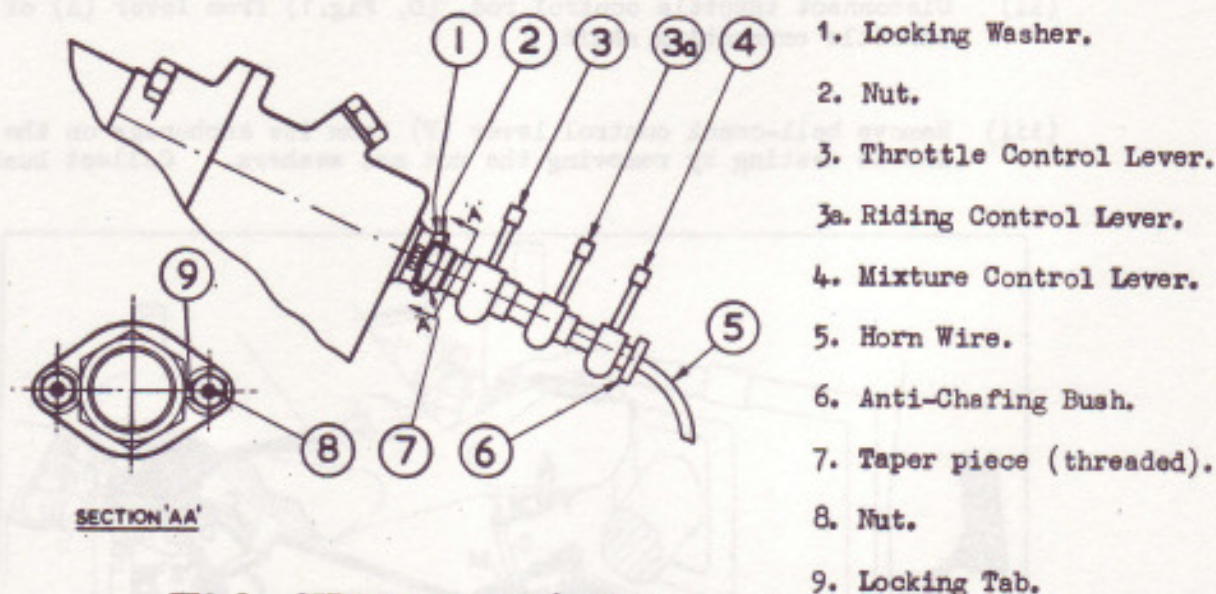

FIG. 2. STEERING COLUMN (BOX) - Lower End.
- (iv) Remove pin (G) from the jaw of the mixture control rod.
- (vii) With the master switch on the instrument panel switched off, remove clip fastening the horn wire (5, Fig.2), to the off-side valance plate. Disconnect wire from its terminal on the horn relay, and remove same from the conduit tube. Remove anti-chafing bush (6) from the mixture control tube at the bottom of the steering column. Remove the pinch bolts from levers (3, 3a and 4, Fig.2), then slide them downwards off their respective tubes.
- (viii) Release lockwasher (1, Fig.2) and remove nut (2) from the threaded taper piece (7) of the stationary tube. Remove nearside nut (8) and locking tab (9). The purpose of this locking tab is to ensure the correct angular positioning of the stationary tube.